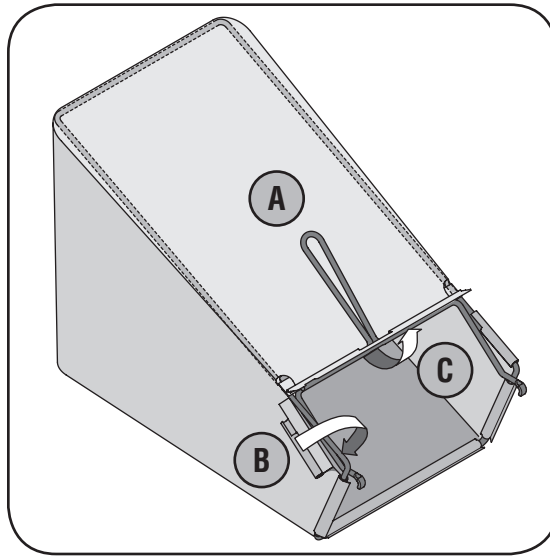

Figure 3-5: Assemble the grass catcher (if needed)
- b. Slip plastic channel of grass bag over hooks on the frame, Figure 3-5. All the plastic channels except center top of bag attach from outside of bag.